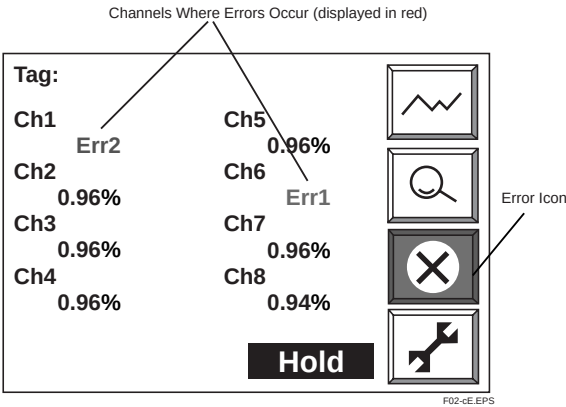

Figure 12.1 Error Displays on Multi-channel Display
- 2) On the multi-channel display, a red error code is indicated under the relevant channel and an error icon flashes in the switch indication area (Figure 12.1).